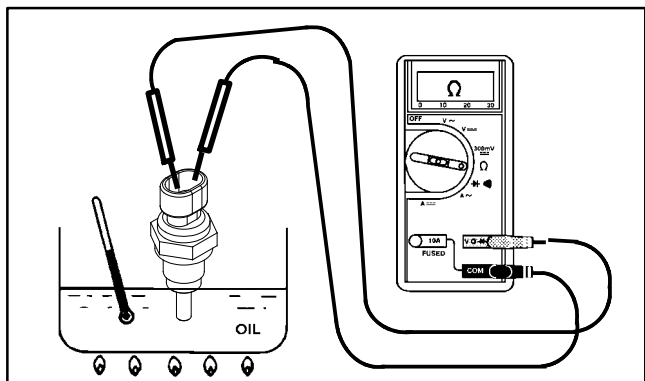

Figure 52
5. Put sensing end of sender in a container of oil with a thermometer and slowly heat the oil (Fig. 52).